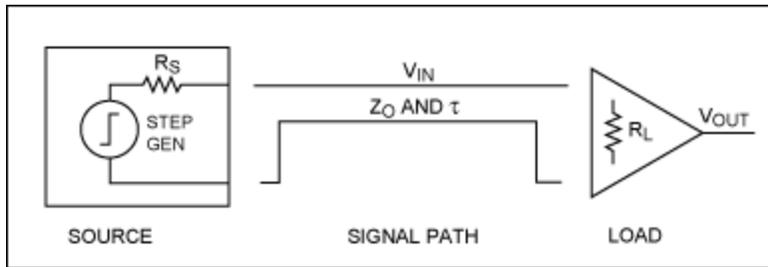
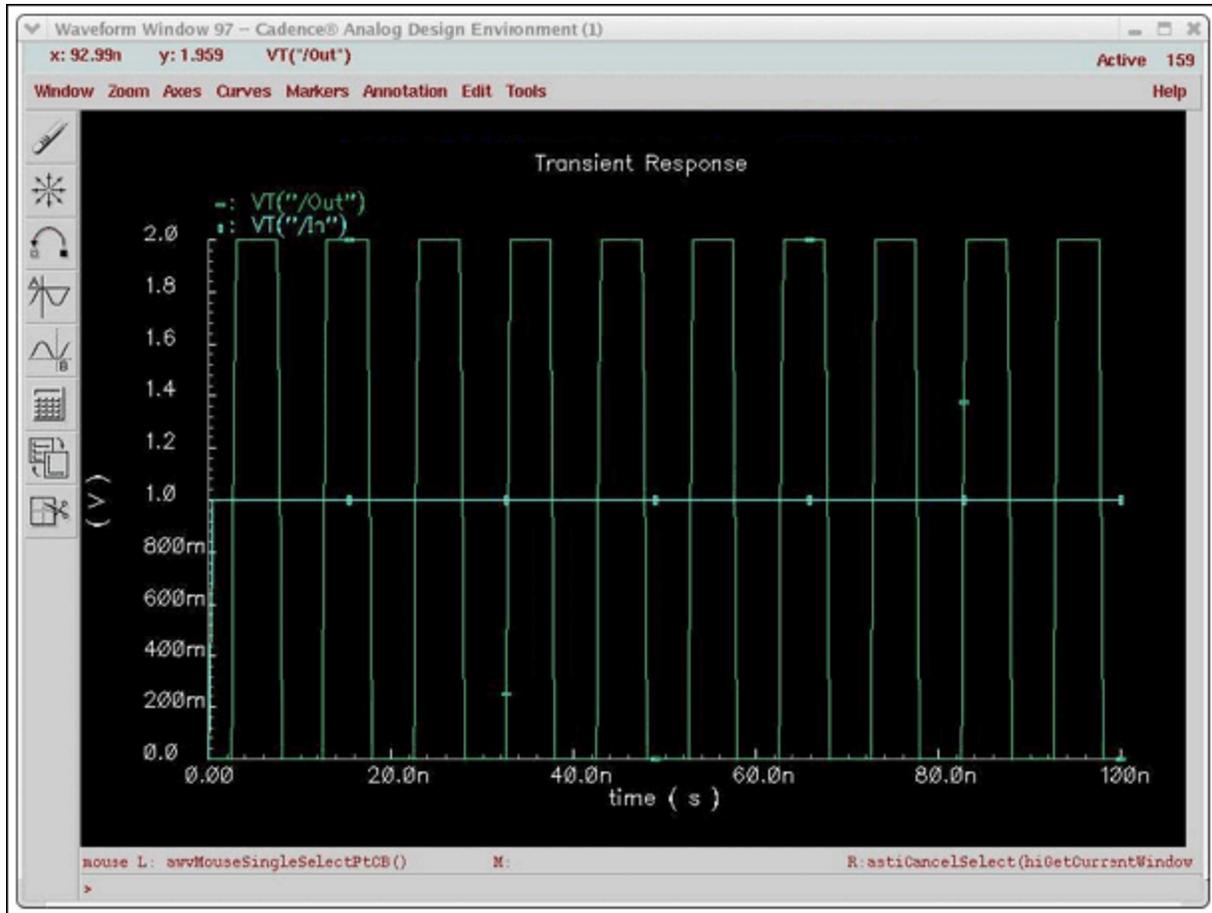

Figure 4. Test schematic.
Figure 5. $R_S = 0\Omega$, $R_L = \infty$, $Z_O = 50\Omega$, $\tau = 2.5ns$.
All three of these impedance parameters affect the signal in different ways. Their effects will be analyzed using the setup shown **Figure 4**. This setup is the basic circuit used for all of the case studies.
There are two reflections that can occur in a setup like the one in Figure 4. One of these is the source-reflection coefficient (SRC) or interaction of R_S with Z_O , and the second is the load-reflection coefficient (LRC) or interaction of Z_O with R_L . Each of these reflection coefficients represents the fraction of the voltage that is reflected and is defined as follows:
The following four case studies refer to the setup in Figure 4. The only parameters that change are R_S , Z_O , and R_L .
The generator in Figure 4 supplies a stepped pulse of amplitude 1V and a rise time (t_r) of 500ps. The simulated plot of V_{OUT} with the above impedances is shown in **Figure 5**.
2. Not matching the source, signal path, and load carefully can lead to problems from full oscillations, or bad ringing effects, at the output. These problems are shown very clearly in Figures 5, 6, and 7.
The fastest approach to optimizing a signal path is the use of a SPICE type of simulator. The circuit can be as simple as that shown in Figure 4. It is important to keep the following points in mind.
1. Use an accurate model of the source, as depicted in Figure 4. Only the output section of the source needs to be modeled. This model should show the series resistance, series inductance, and shunt capacitance.
2. The transmission line depicted in Figure 4, whether it be a PCB trace, coaxial cable, twisted pair cable, etc., also need to be accurately modeled.
3. Finally, the Figure 4 load must also be modeled precisely to reflect the resistance, inductance, and shunt capacitance.